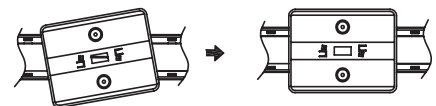

Fig. 6
4. Remove the mounting hole cover on the top or side of the fixture and assemble the canopy. (see Fig.6)